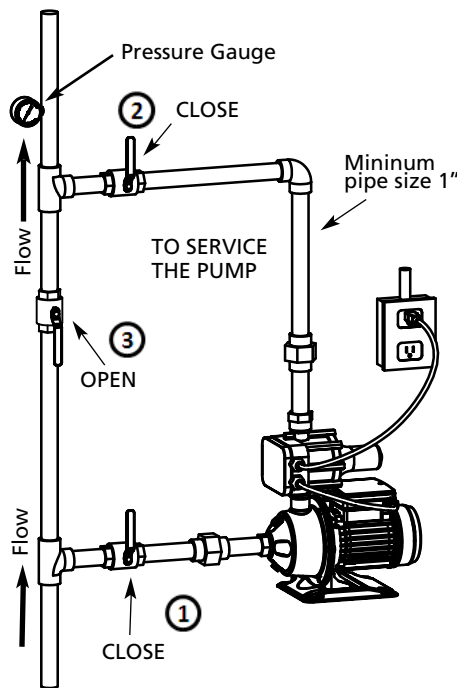

Figure 3 – DO NOT try to turn the Automatic Pressure Controller. It is aligned at the factory and twisting it will break the glue joint and cause a leak
13. Install a pressure gauge as per the pictures as above(Figure 3), to monitor the pressure in piping